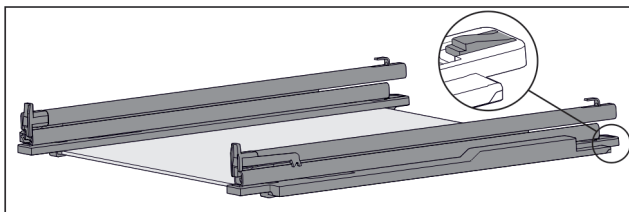

Fig. 222 Glass shelf with rails and retaining parts
- ▶ Press down retaining part at the rear (see *Fig. 222*) and at the same time push the rail back.